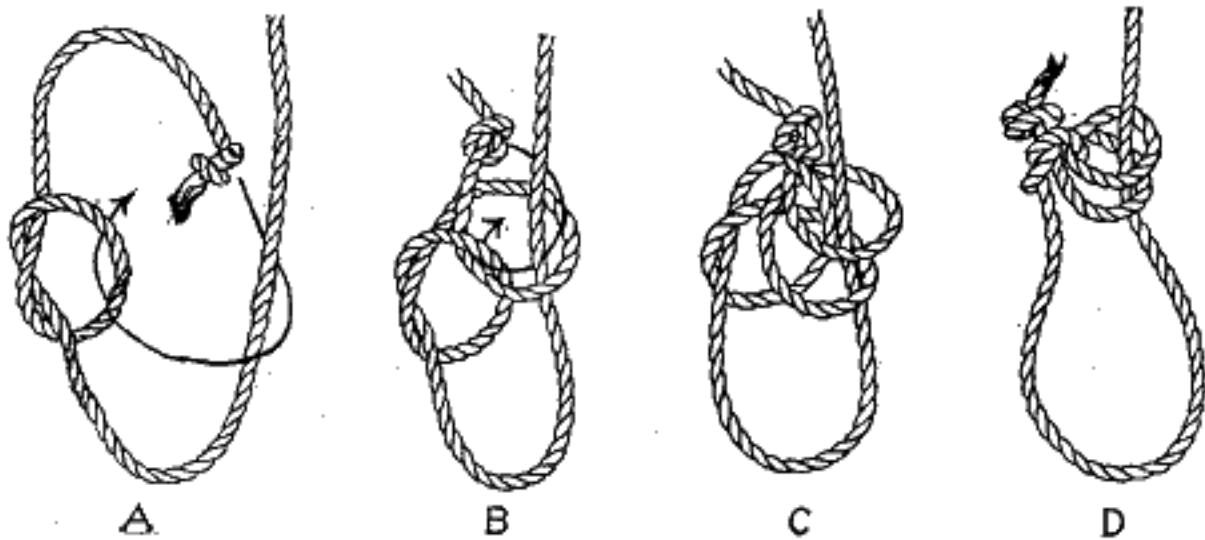

FIG. 337.—The lariat knot.
**398. The lariat knot** (Fig. 337) is made by first tying two overhand knots—one at the end of the rope and drawn up tight, and the other back